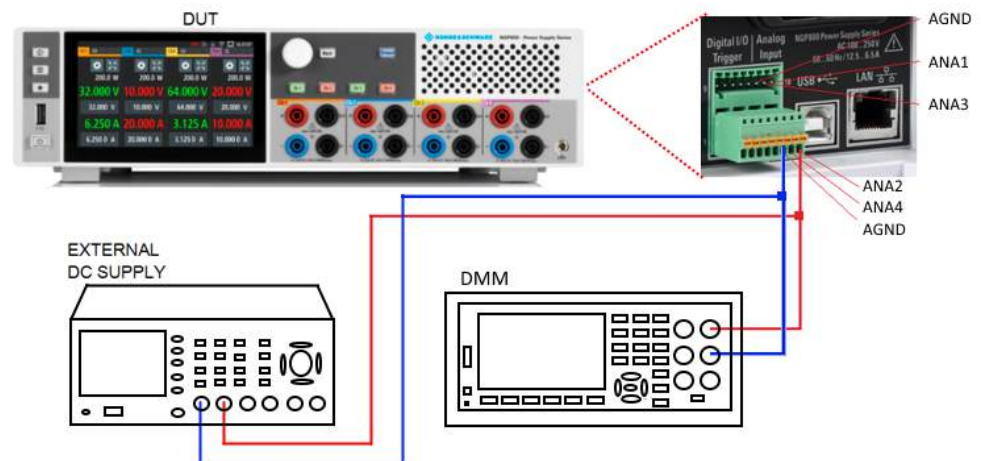

Figure 5-33: Analog input adjustment setup
- Set up the adjustment with instruments illustrated in Figure 5-33.